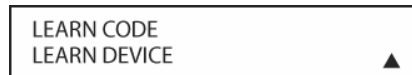

Figure 136
3. Press the **Set Button [triangle 15]**. The message in the LCD display will change to the LEARN CODE menu (**Figure 136**). The bottom line will default to the LEARN DEVICE option.